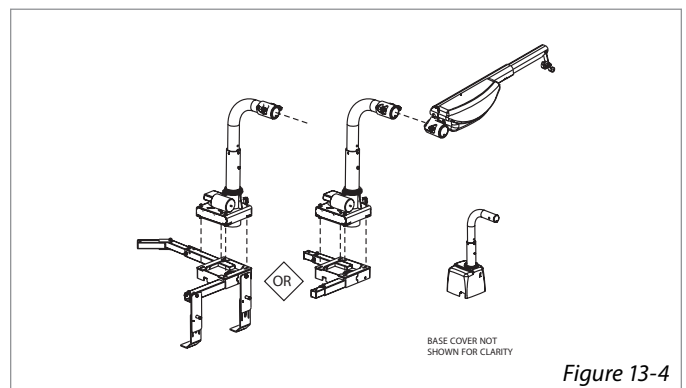

Figure 13-4
3. **With an assistant, place the lift on top of the base** in the extreme back corner of the cargo space. This will yield the greatest available loading area. Slide the arm onto the post. [Figure 13-4]